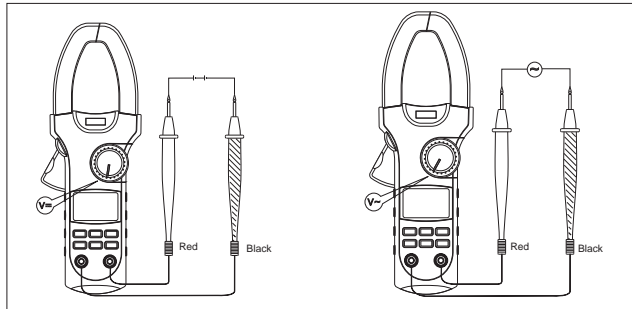

Figure 3
A. DC/AC Voltage Measurement (see figure 3)